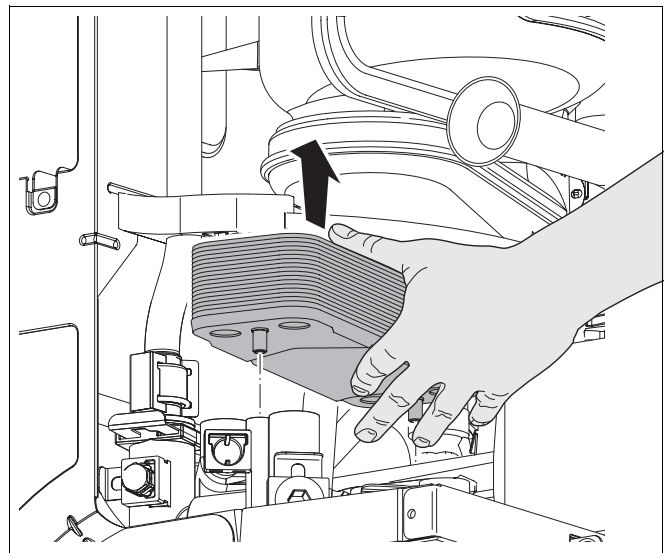

fig. 66 Remove plate heat exchanger
- Remove the plate heat exchanger (fig. 66).